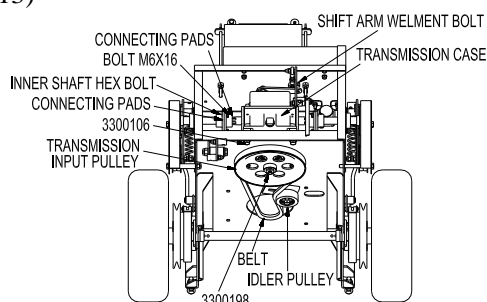

FIG13
- Finally, tighten left and right connecting pad M6x16 bolts and inner shaft hex bolts. (See FIG 13)